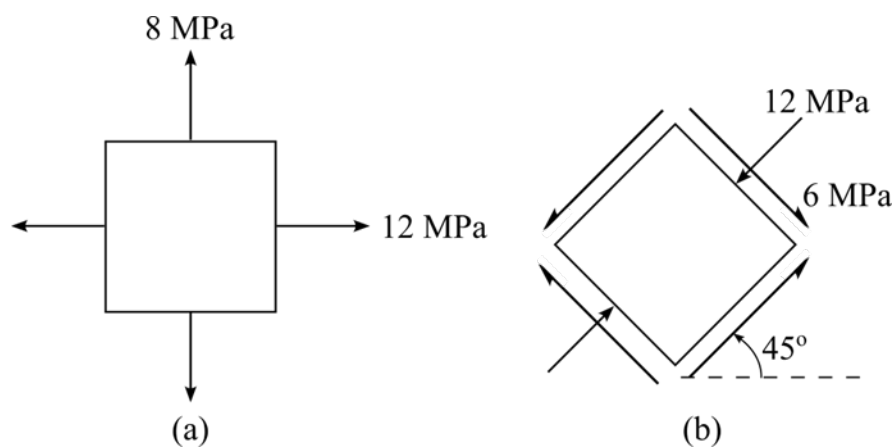

Figure 4
4. (a) Figure 4 shows two stress elements of (a) and (b).